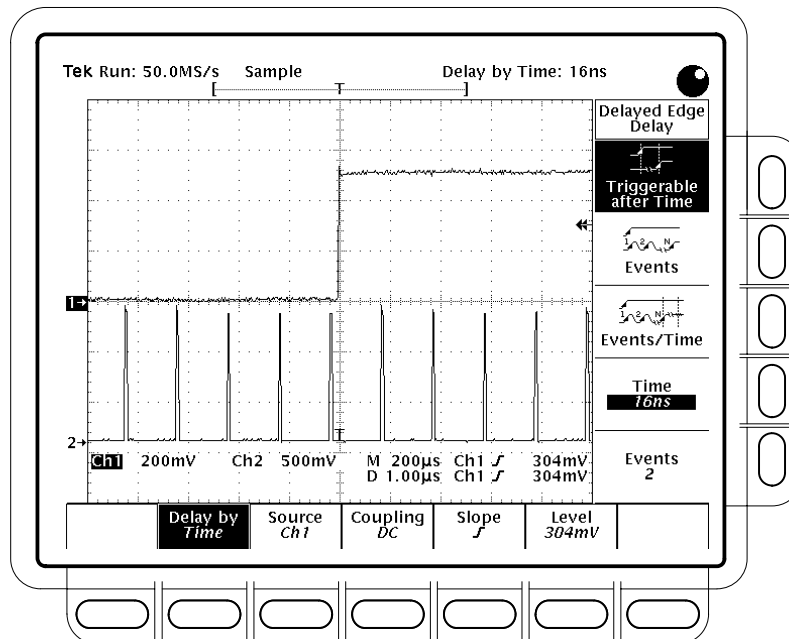

Figure 3–57: Delayed Trigger Menu
6. Press **SHIFT DELAYED TRIG** → **Delay by** (main) → **Triggerable After Time, Events, or Events/Time** (side) (See Figure 3–57.)